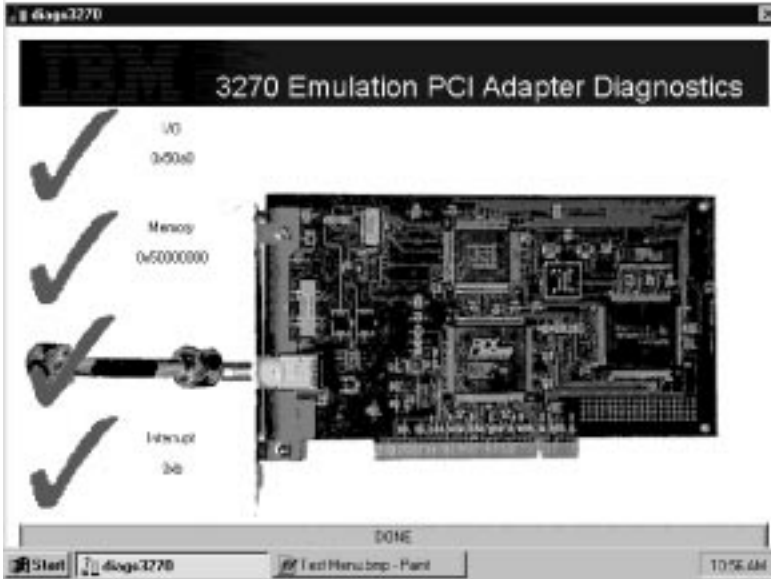

Figure 2. 3270 Emulation PCI Adapter Diagnostics - Results
7. Four check marks, as shown in Figure 2, indicate that all diagnostics completed successfully. This means that the adapter is functioning properly and is connected to an active control unit. If you get four check marks but communications problems still exist, there may be problems elsewhere in the PC or in the application program that accesses the 3270 PCI card.
12. Four check marks, as shown in Figure 2 on page 14, indicate that all the diagnostic tests completed successfully. This means that the adapter is functioning properly in the Windows 95, 98, or NT environment and is connected to an active control unit. If you get four check marks but communication problems still persist, there may be problems elsewhere in the PC or in the application program that accesses the 3270 PCI card.